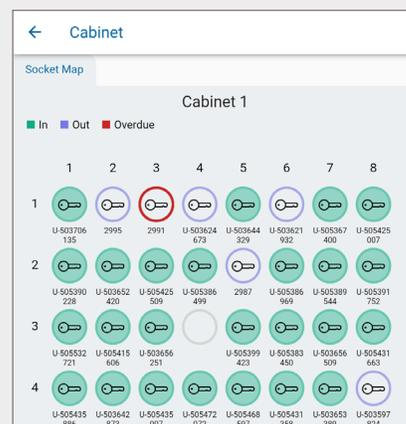

Fig. 189 – Cabinet Socket Map screen
5. Select **menu**  or anywhere on a card to open the Socket Map shown in Fig. 189.
The socket map provides a visual representation of the fobs inserted into the sockets in your cabinet, as shown in Fig. 189. The information displayed is as follows: